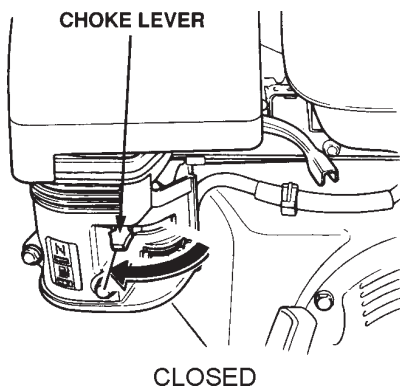

Figure 12. Choke Lever (Closed)
- If the engine has started, slowly return the choke lever (Figure 12) to the **CLOSED** position. If the engine has not started repeat steps 1 through 6.